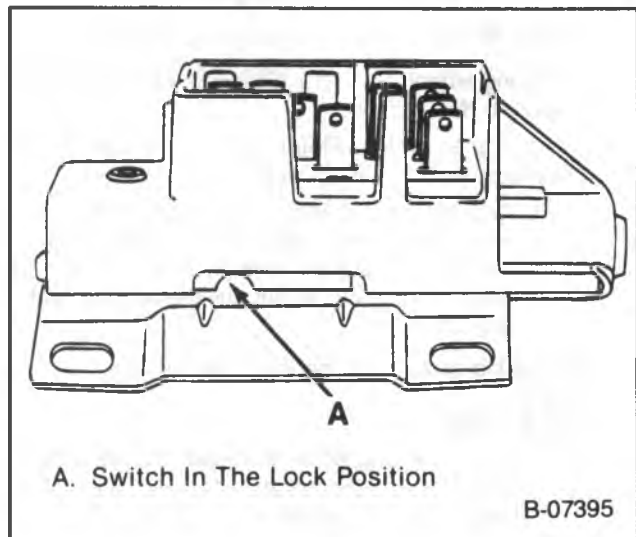

Figure 16 — Ignition Switch Assembly
Install or Connect (Figure 16)
- Put the ignition switch in the "LOCK" position (figure 16).